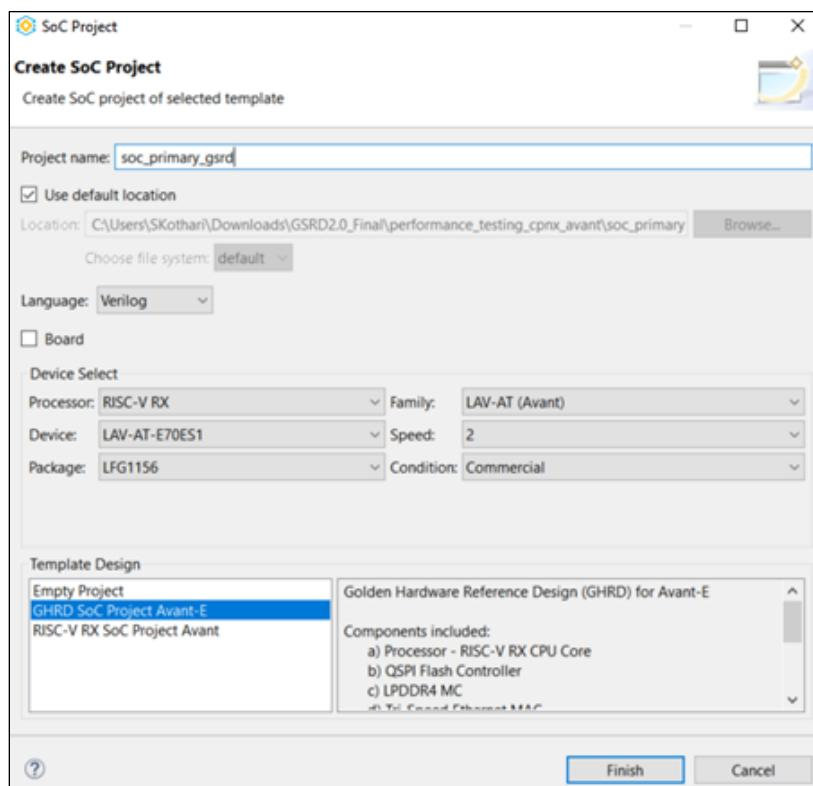

Figure 8.4. SoC Project Window
5. On the SoC Project window, provide name for your SoC project. Choose Processor as **RISC-V RX**, Family as **LAV-AT**, Device as **LAV-AT-E70ES1**, Package as **LFG1156**, and choose the GHRD SoC Project Avant-AT-E from Template Design as shown in Figure 8.4. Since you can make your own desired modifications to this project, the project name is called as **soc_primary_gsr**.